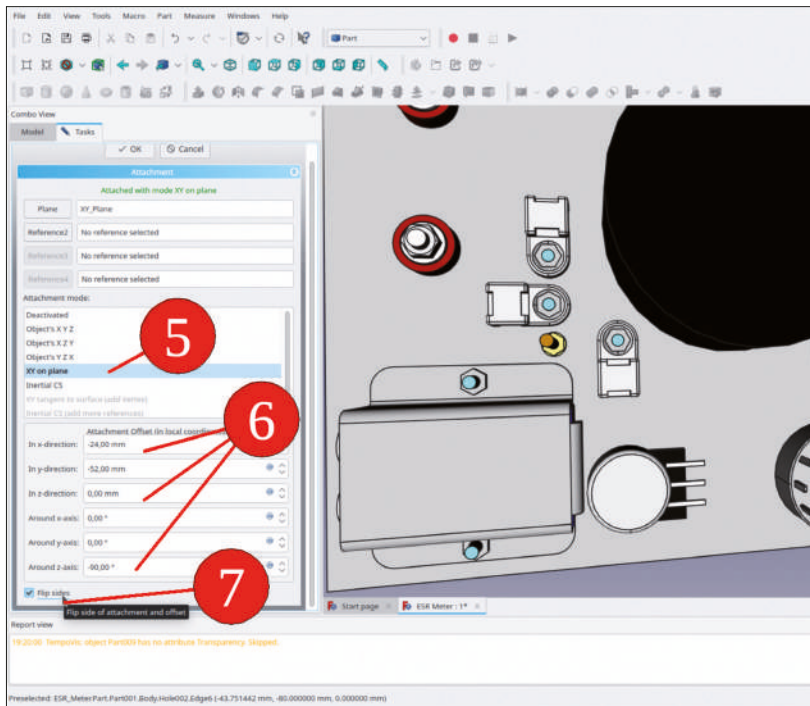

Figure 7-54
19. Return to the 'Tasks' tab. For the attachment mode, select 'XY on plane'. For the attachment offsets, enter  $X = -24$  mm,  $Y = -52$  mm and a rotation angle of  $-90^\circ$  around the Z axis. Check the 'Flip sides' checkbox. (Figure 7-54). Close the task window with the 'OK' button.